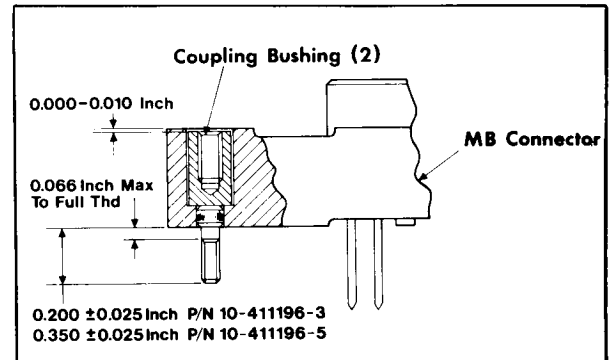

Figure 1. MB locking/mounting bushing assy.
- a. Locking/mounting accessories, Bendix® 10-411196-3 or 10-411196-5, may be used (two per connector). These bushings may be inserted into any MB connector body from the front into the 0.185 inch diameter countersink holes at each end. The knurled section of the bushing must be pressed firmly into the lower 0.122 inch diameter hole until the front of the bushing is flush with, or slightly below, the front surface of the MB connector. (Ref. figure 1) A light arbor press or similar device may be used for this procedure. Carefully align the axes of the bushing and hole and avoid excessive pressure that could crack the back surface of the connector body.